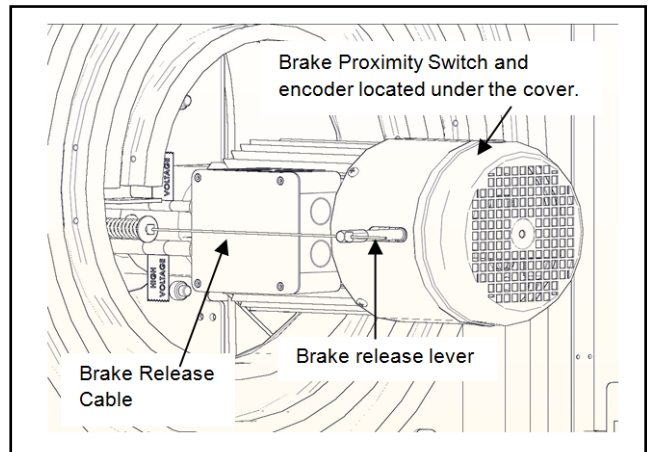
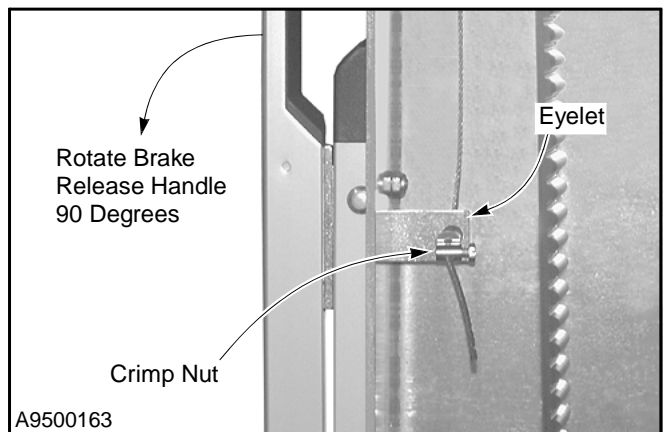

Figure 34
Figure 35
- One end of the steel cable was connected to the brake mechanism at the factory. For shipping, the other end has been routed out through the side of the left drive assembly. Pull the cable back through the drive assembly and route it down through the side column to the brake release handle. (See Figure 34 and Figure 35.)
- With the brake release handle fully extended out or at 90 degrees, feed the cable through the eyelet in the bottom of the handle. Slide a crimp nut over the end of the cable with the nut tight against eyelet. Then tighten down the setscrew — with the majority of slack removed from the cable. The crimp nut is located in the small parts carton. (See Figure 35.)